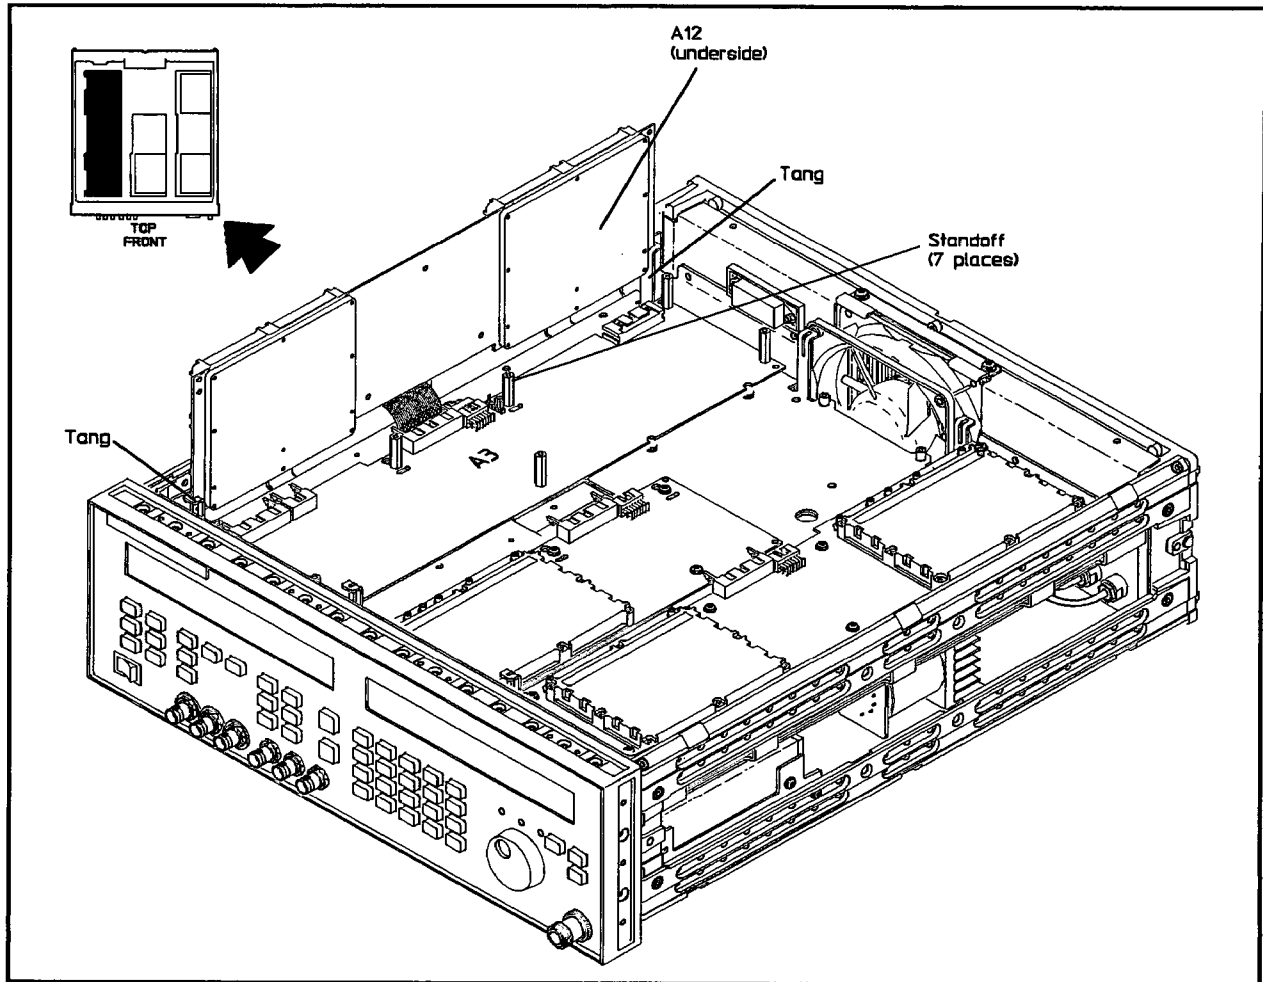

Figure 5-18. Microprocessor Board Service Position
4. Position the modulation source board assembly, A12, in the tangs as shown in Figure 5-18.